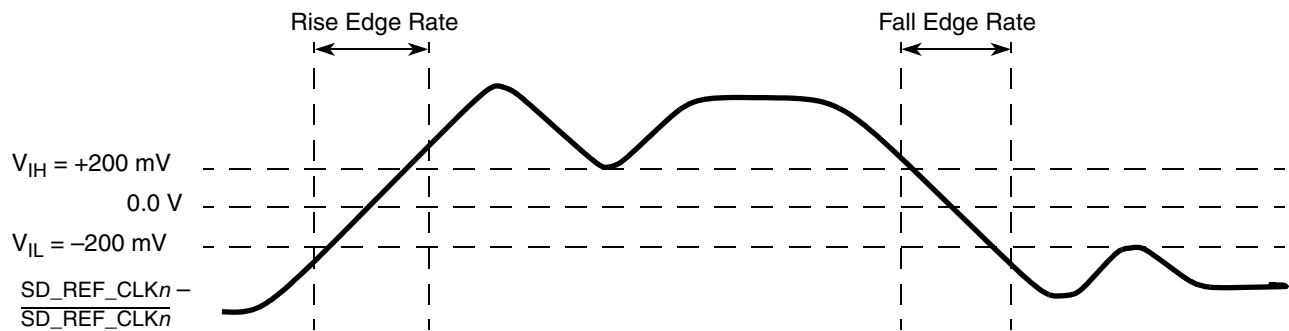

Figure 40. Differential measurement points for rise and fall time
- Measured from −200 mV to +200 mV on the differential waveform (derived from SD_REF_CLKn minus SD_REF_CLKn). The signal must be monotonic through the measurement region for rise and fall time. The 400 mV measurement window is centered on the differential zero crossing. See Figure 40.